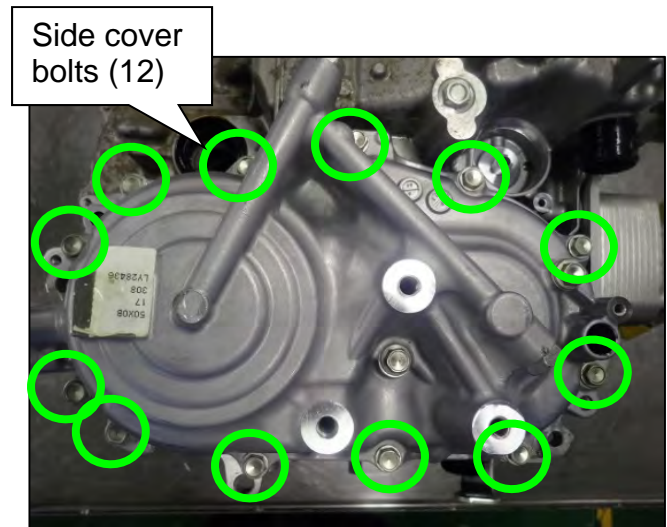

Figure 98
74. Remove the twelve (12) side cover bolts (Figure 98).
- Retain two (2) of these bolts. They will be temporarily installed during a later step.